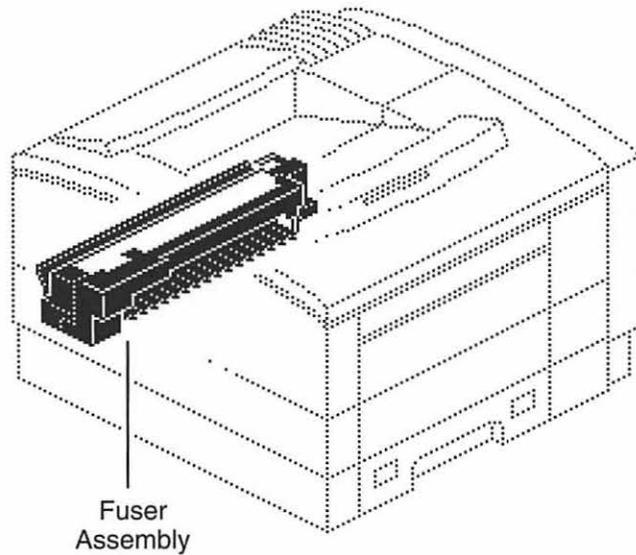

Figure 1-12
- The fuser assembly (see Figure 1-12) contains: 1) the upper and lower fuser pressure rollers; 2) the thermosensor, which communicates fuser assembly temperature to the DC controller board; 3) the thermoprotector fuse, which cuts off power to the fuser assembly if the heater bulb gets excessively hot; and 4) the heater bulb, which is located in the upper roller. As the page moves between the upper and lower pressure rollers, the heater bulb creates the heat necessary to fuse the toner onto the paper.